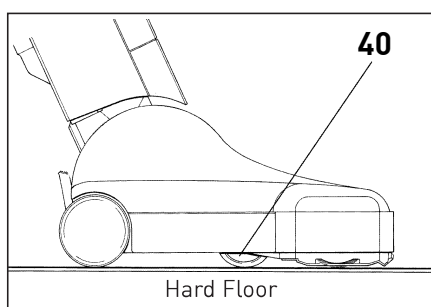

Figure 5
## The Adjustment Wheel - Figures 5 & 6
On hard floors (figure 5), the adjustment wheel (40), moves upward into the machine so that the brush lowers and becomes flush with the floor.